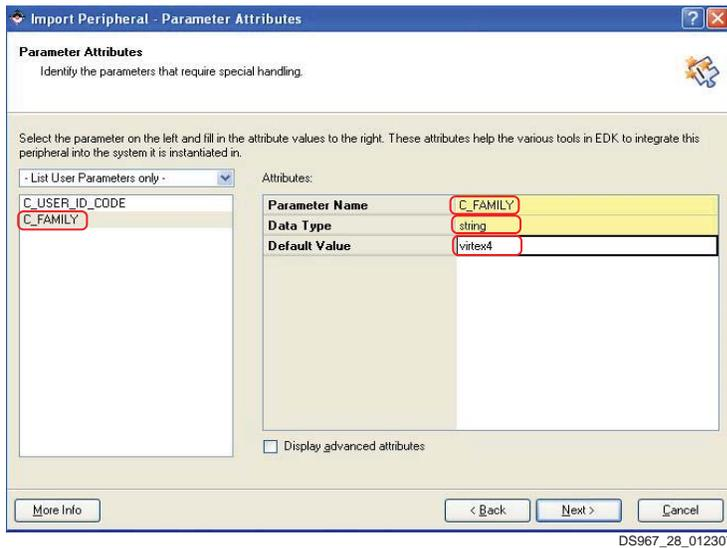

Figure 28: Defining Default Values for the User/IPIF Parameters
- In the Parameter Attributes window, make the selections shown in Figure 28 to set the default values for the user parameters and for the IPIF parameters.